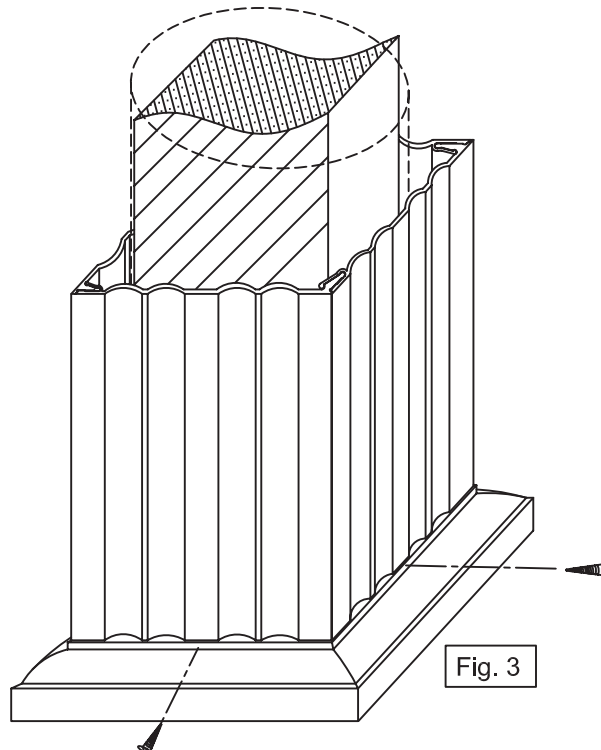

Fig. 3
Step 4. Attach the split cap & base to the column with screws as shown (Fig. 3).